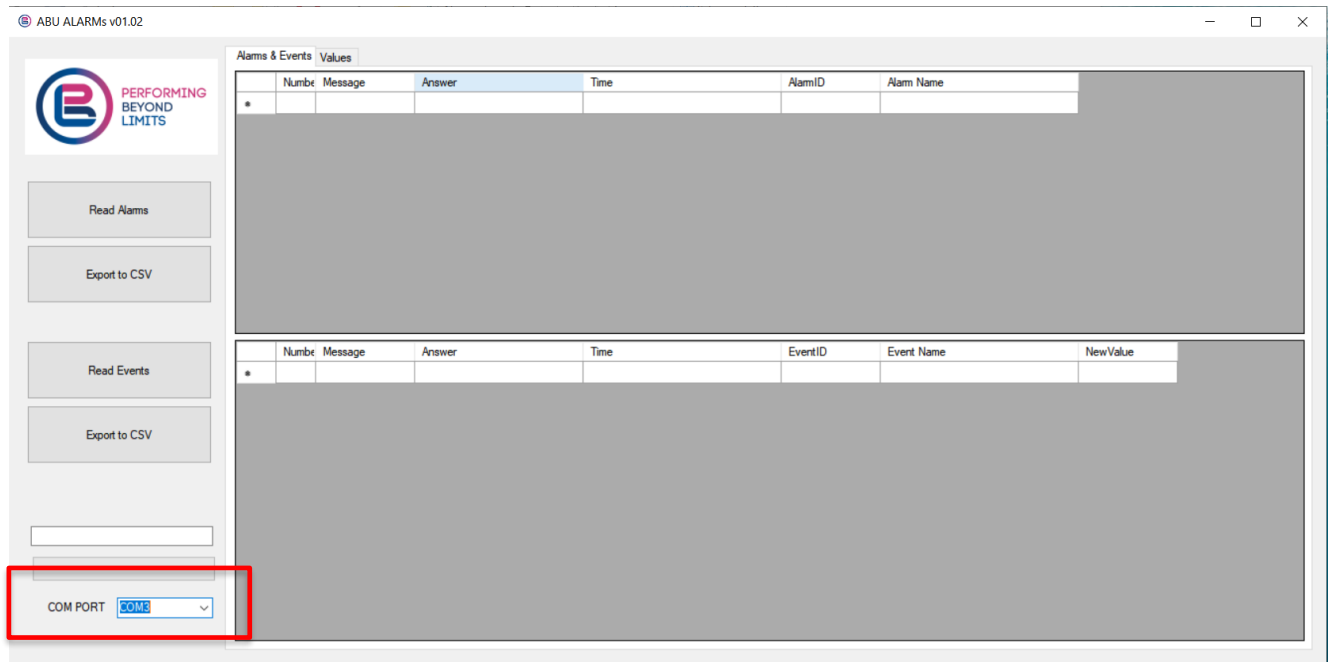

Figure 6.37. COM PORT selection.
- Select the USB port on the ‘Serial Arduino’ page as shown in Figure 6.37, under ‘COM PORT’